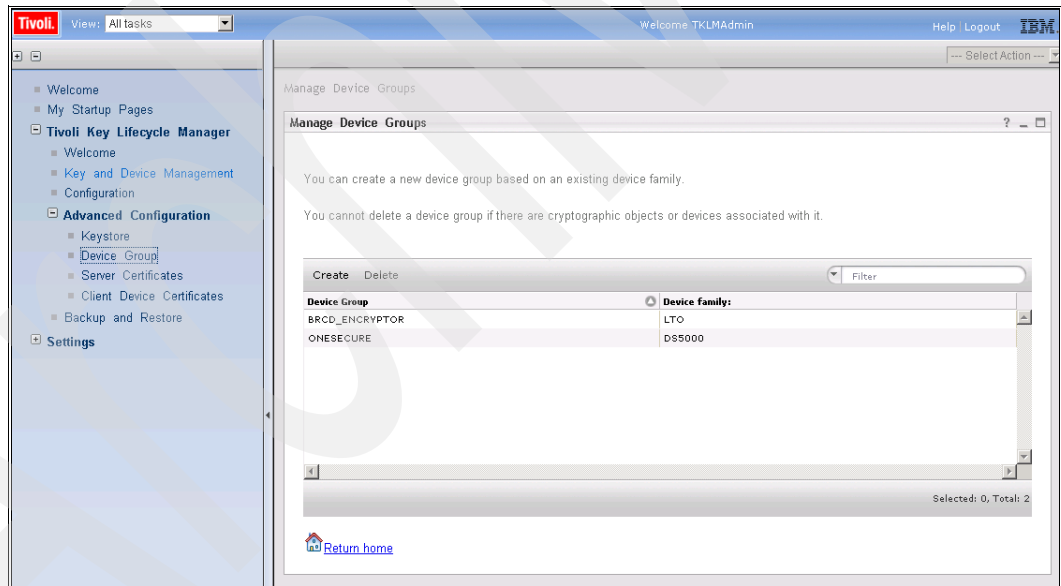

Figure 9-14 Manage device groups panel
- Select **Device Group** to see the **Manage Device Groups** panel (Figure 9-14).